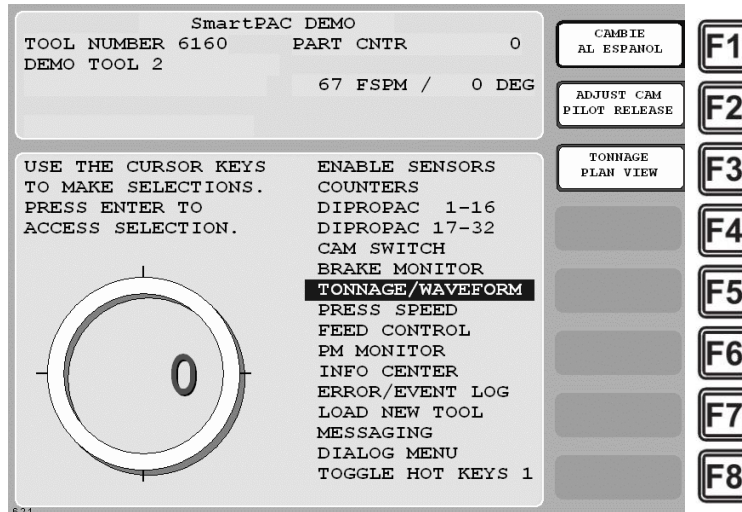

Figure 5-1. SmartPAC Main Run Menu
1. From the main menu of the current operating mode, turn the Program/Run key to the “RUN” position. A screen like the one shown in Figure 5-1 will display: